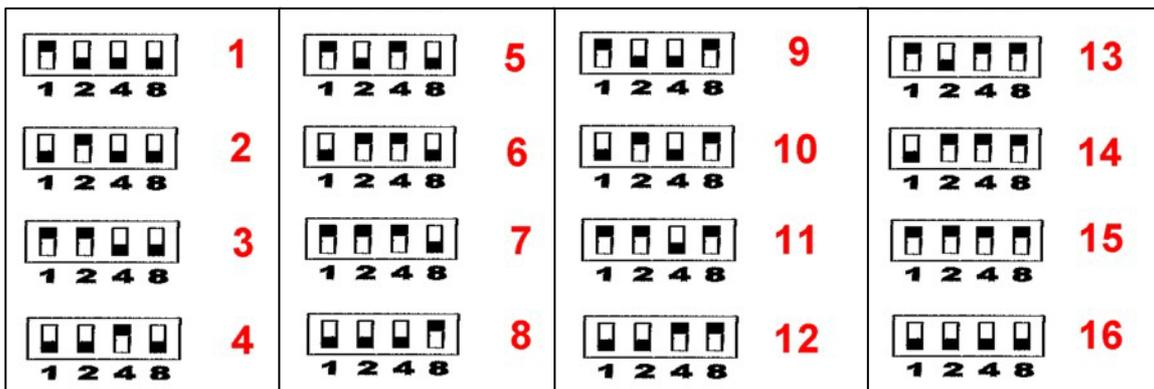

Fig. 11: Compressor Wheel Blade Setting Diagram
2. Set the gauge for your particular compressor wheel. There are 4 dip-switches on the back of the gauge. Set the switches to the correct number of compressor blades based on figure 11 below. (If you desire to use the sensor to pick up a single magnet or machined flat on a shaft, choose 1 blade, or 2 blades if there are 2 magnets or flats, etc.). See figure 10 for example setting for 12 blades. Disregard the "8-6-4" above the dip switches.